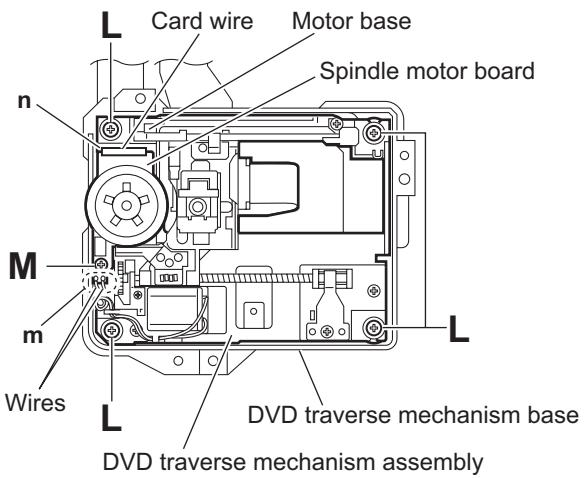

Fig.15
(See Figs.15 and 16)
- (1) From the topside of the DVD traverse mechanism assembly, remove the four screws **L** attaching the DVD traverse mechanism assembly to the DVD traverse mechanism base. (See Fig.15.)
- (2) Remove the wires from the soldered section **m** on the spindle motor board. (See Fig.15.)
- (3) Remove the screw **M** attaching the spindle motor board. (See Fig.15.)
When attaching the spindle motor board, let the card wire through the hole **n** on the motor base. (See Fig.15.)